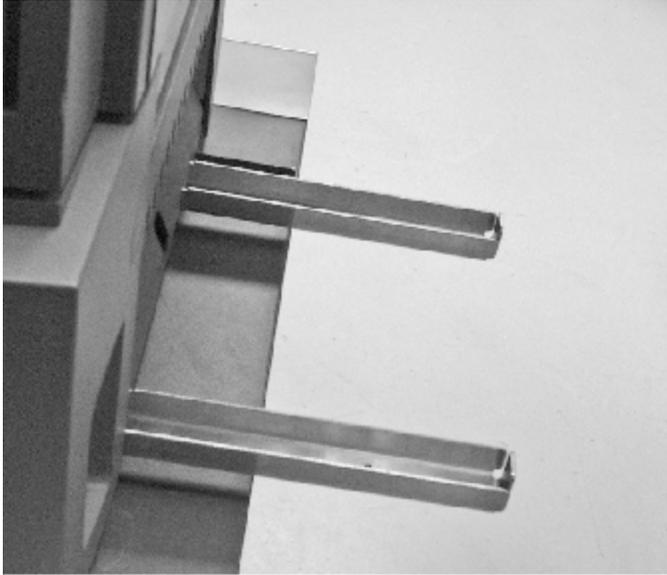

Figure 24 HCSF Lift Handles
20. Remove the lift handle screws. Push the lift handles in and secure them with the screws just removed. See Figure 24.